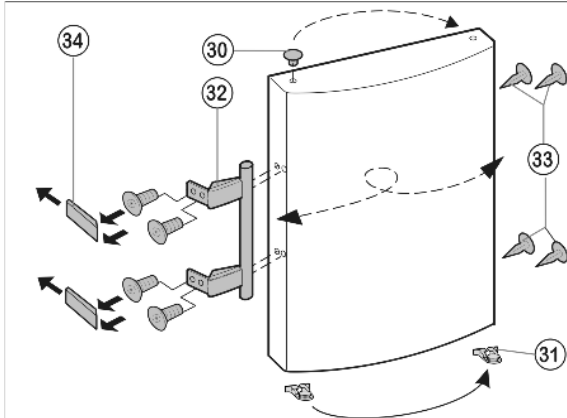

Fig. 8
- ▶ Disengage the spring clip Fig. 8 (31) from the upper door and transfer it to the new hinge side.
- ▶ Lift the stoppers Fig. 8 (30) out of the door bearing bushes and transfer them.
- ▶ Detach the door handles Fig. 8 (32), stoppers Fig. 8 (30) and pressure plates Fig. 8 (34) and transfer to the opposite side.